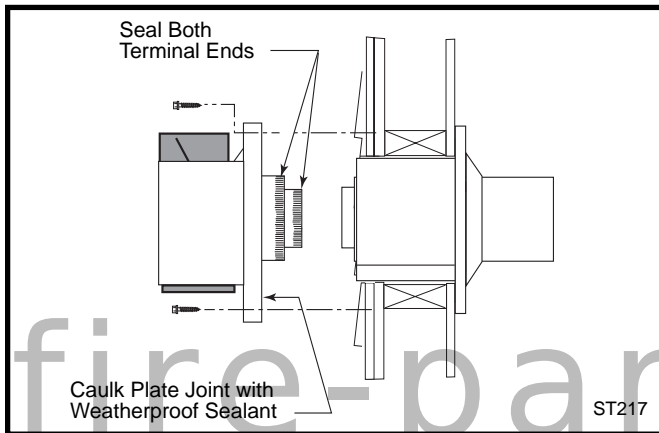

Fig. 33 Install the vent terminal.
**10. For both CFM and DuraVent Systems:** Install the vent terminal. (Fig. 33) Apply high temperature sealant one inch from the ends of the inner and outer collars. Guide the inner and outer vent termination collars into the adjacent pipes. Double check that the vent pipes overlap the collars by 2". Fasten the termination to the wall with the screws provided, and caulk the joint with weatherproof sealant.